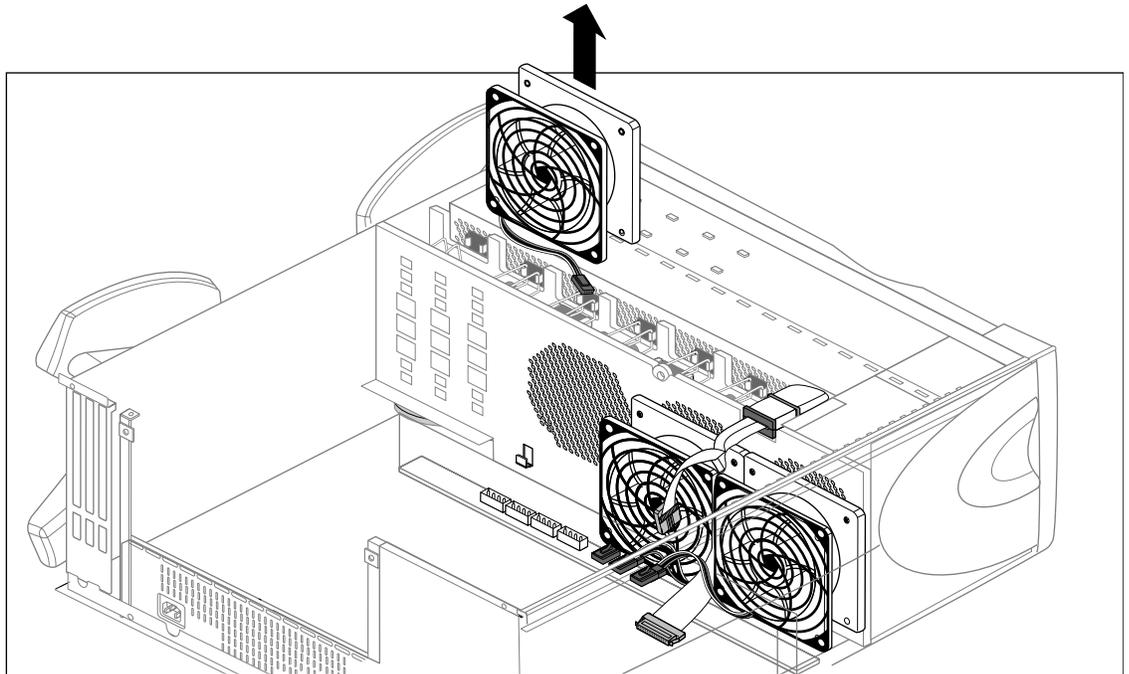

Figure 5-3 Removing a Fan From the System (Some Components Not Shown For Clarity)
3. Lift the fan out of the system, as shown in Figure 5-3.